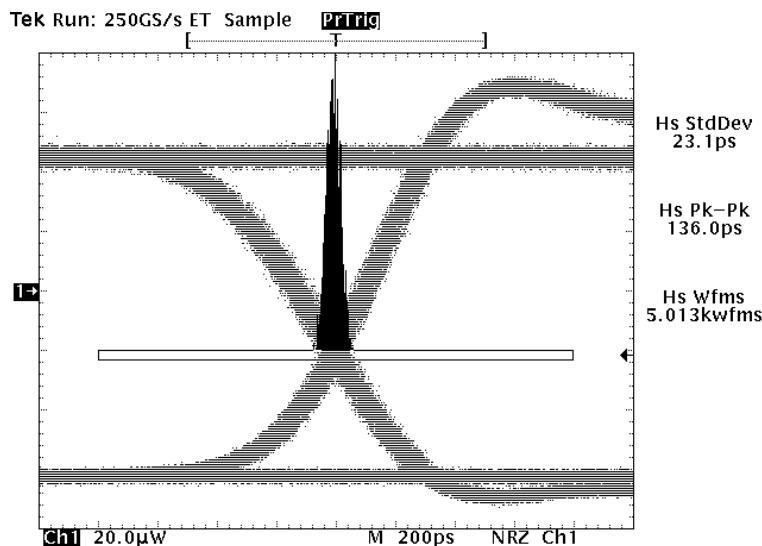

Figure 9. Jitter Measurement Using Histograms
- < **Histogram Box Limits:** adjust the Top Limit, Bottom Limit, Left Limit, and Right Limit such that the box surrounds the area where jitter will be measured. See Figure 9 for an example.
Figure 9 shows a histogram measurement at the eye crossing. The histogram is shown above the waveform. If the histogram is a normally distributed curve, the histogram width at one standard deviation is equal to the random (rms) jitter. Automatic measurements of the histogram's standard deviation and peak to peak width were turned on to characterize the jitter.